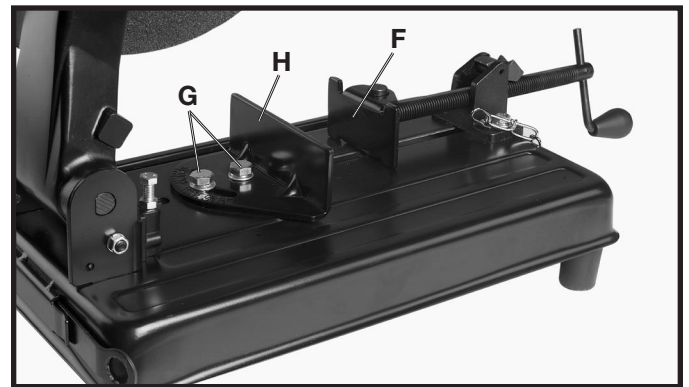

Fig. 10
1. Loosen two screws (G) Fig.10, and rotate rear vise clamp (H) to the desired angle. Then tighten the two screws (G). The front vise clamp (F) pivots on its post and will automatically align itself with the workpiece.